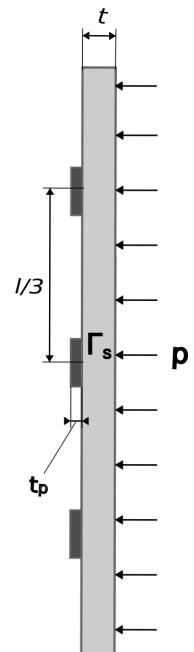

Figure 2: Side view
- Test the model in static analysis by applying a pressure of magnitude  $\mathbf{p} = 1000 \text{ N/m}^2$  on the back of the plate as shown in figure 2. **(1 point)**